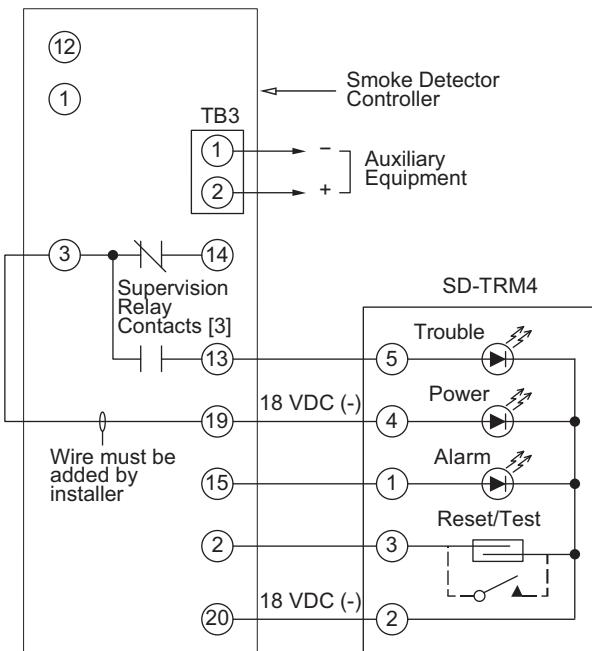

Fig. 47 — Remote Test/Reset Station Connections
The test/reset station dirty sensor test checks the test/reset station's ability to initiate a sensor dirty test and indicate the results. It must be wired to the controller as shown in Fig. 47 and configured to operate the controller's supervision relay. For more information, see "Dirty Sensor Test" on page 27.
1. Verify that the remote test/station is wired as shown in Fig. 47. Repair or replace loose or missing wiring.